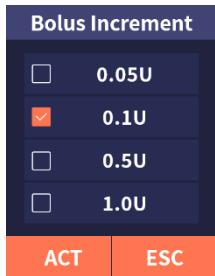

Figure 4.10
(2) Click “Bolus Increment” to open the setting interface (as shown in Figure 4.10). Select the appropriate value. Click “ACT” to save and exit, or click “ESC” to exit without saving.